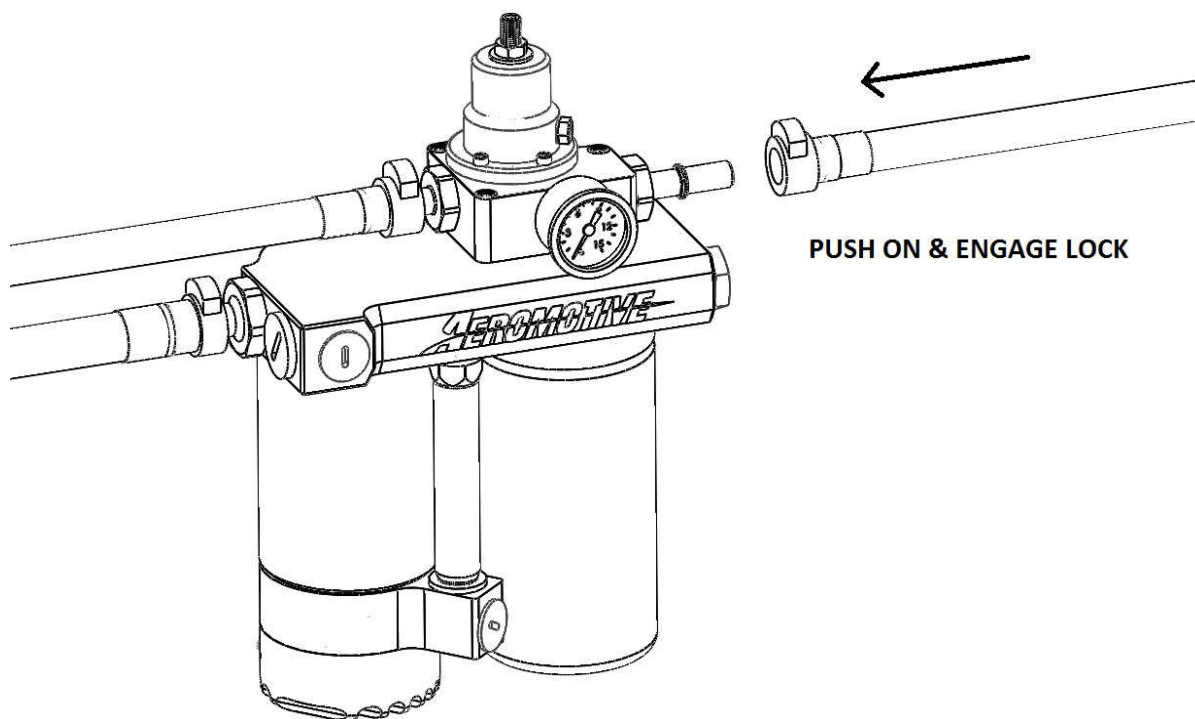

FIGURE 1-15
19. Disconnect the factory J2044 connector with the appropriate 1/2" fuel disconnect tool about mid frame on the drivers side (where the soft line meets the steel line). Connect the last Aeromotive red fuel line to the factory steel line and then to the outlet on the pump. Route the line to take up excess slack. **FIGURE 1-15**